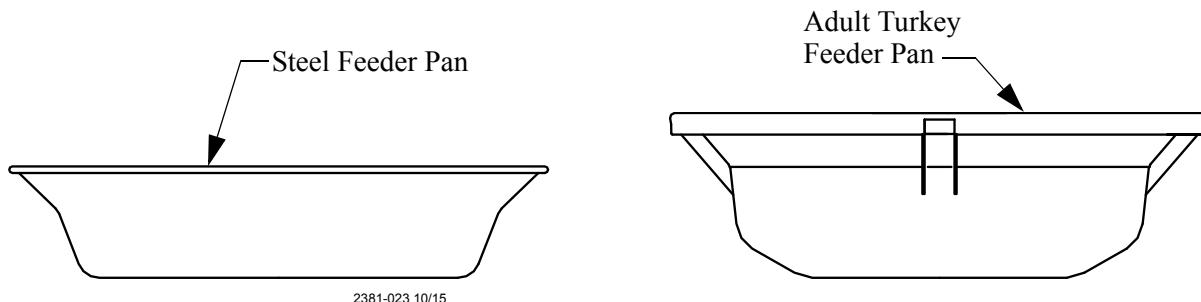

Figure 22.Feeder Pans
3. Determine which feeder pan (Adult Turkey or Steel) is to be installed, see **figure 22**.